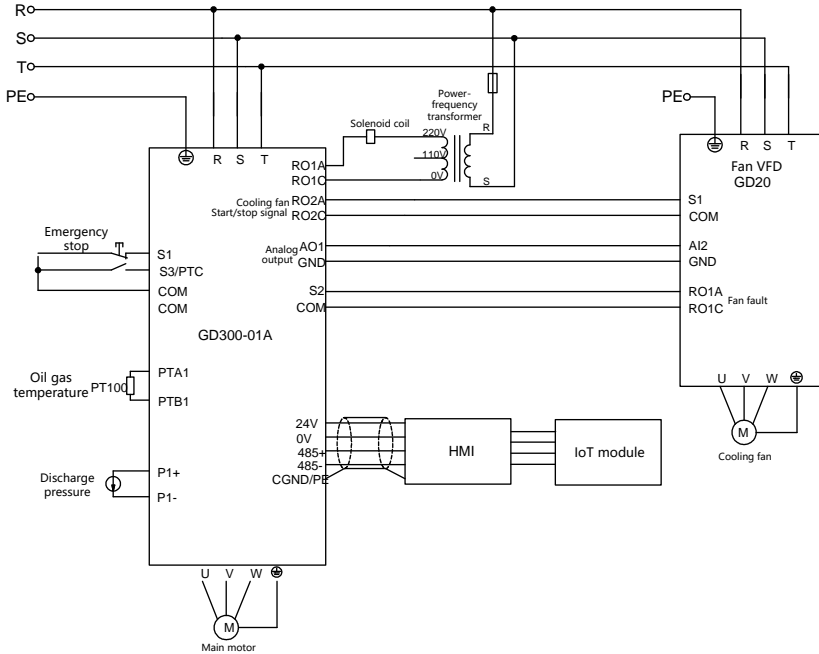

Figure 4-1 Wiring diagram for dual-VFD air compressor system
1. Perform wiring according to Figure 4-1 and ensure that the VFD for air compressor and the housing of the air compressor are grounded properly.